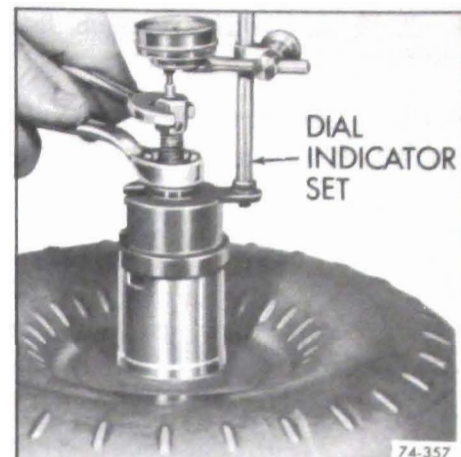

Figure 74-357
d. Loosen hex nut. See Figure 74-357. When nut is fully loosened the reading obtained on the dial indicator will be converter end clearance. If clearance is .050" or over and the oil has the appearance of having been mixed with aluminum paint, replace the converter.